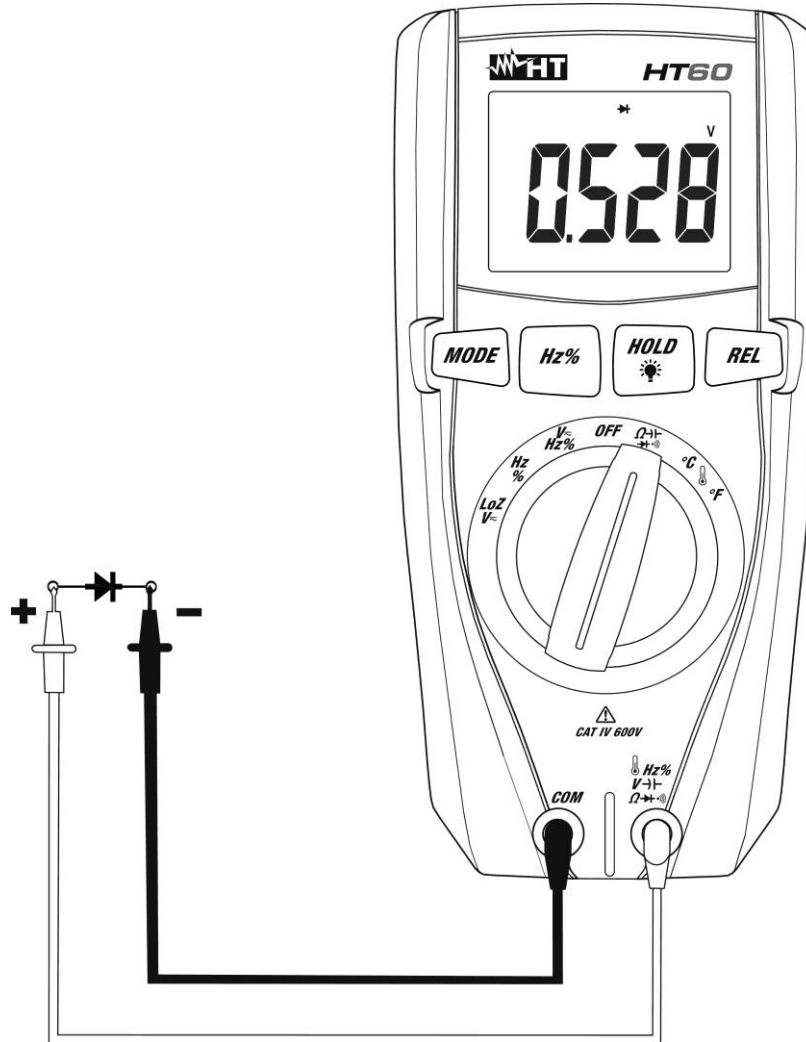

Fig. 6: Use of the instrument for diode test
4. Position the leads at the ends of the diode to be tested, respecting the indicated polarity (see Fig. 6). The value of directly polarized threshold voltage is shown on the display.
6. If the display shows the message "**O.L.**", the terminals of the diode are reversed with respect to the indication given in Fig. 6 or the P-N junction of the diode is damaged.